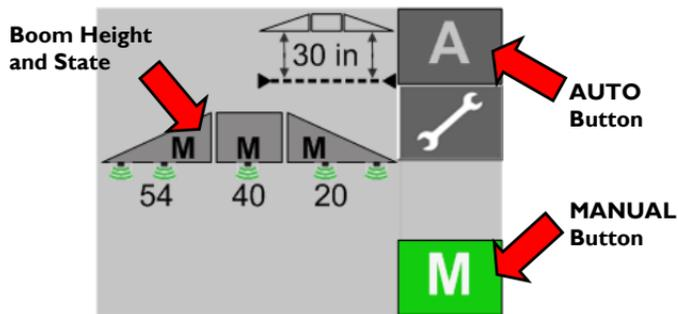
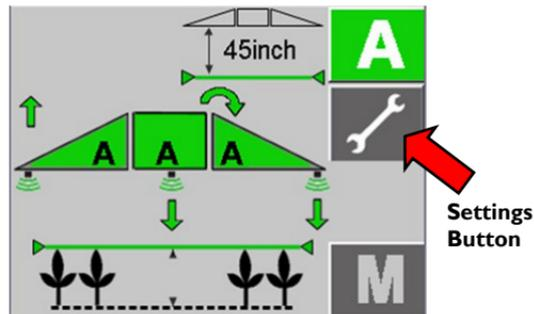

Figure 2: NORAC UC5™ Run Screen – Manual Mode
Figure 3: NORAC UC5™ Run Screen – Automatic Mode
To change between Automatic and Manual Mode, select the corresponding “AUTO” (A) or “MANUAL” (M) button. When the UC5™ system is in Automatic Mode, the screen will appear as in Figure 3. In Manual Mode the system appears as in Figure 2. If the boom is above normal working height (typically 80 inches/205 cm), a warning message will appear requiring the boom to be lowered before allowing Automatic Mode to be activated.